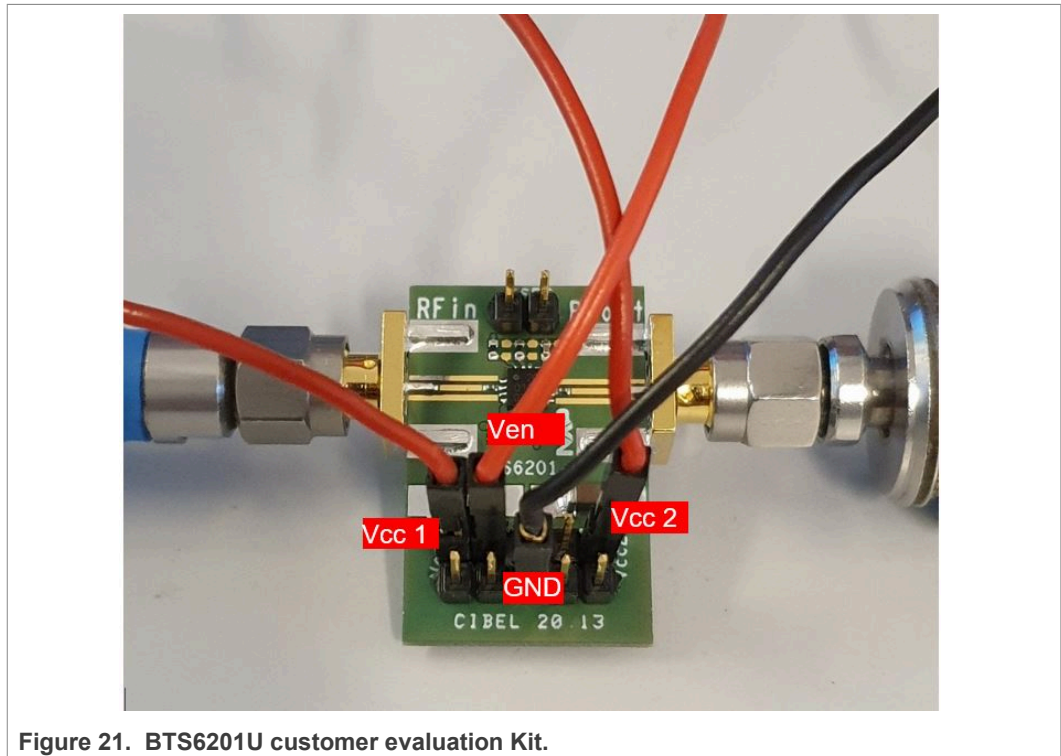

Figure 21. BTS6201U customer evaluation Kit.
1. Connect the EVB to a calibrated network analyzer see Figure 21, we advise the following settings for S-parameter measurements: